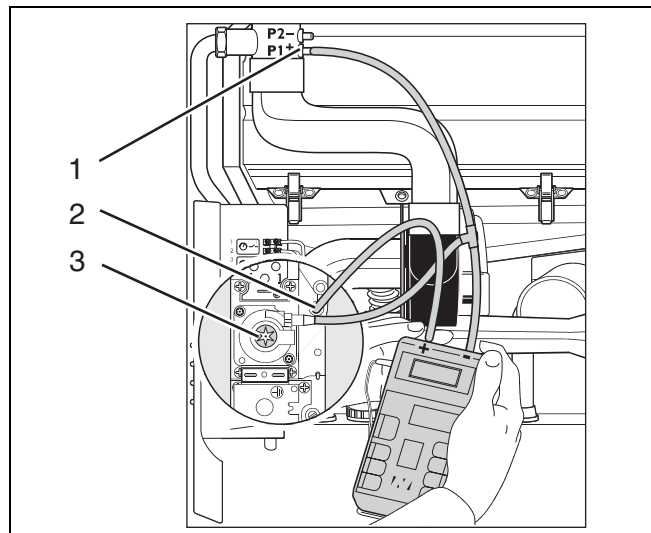
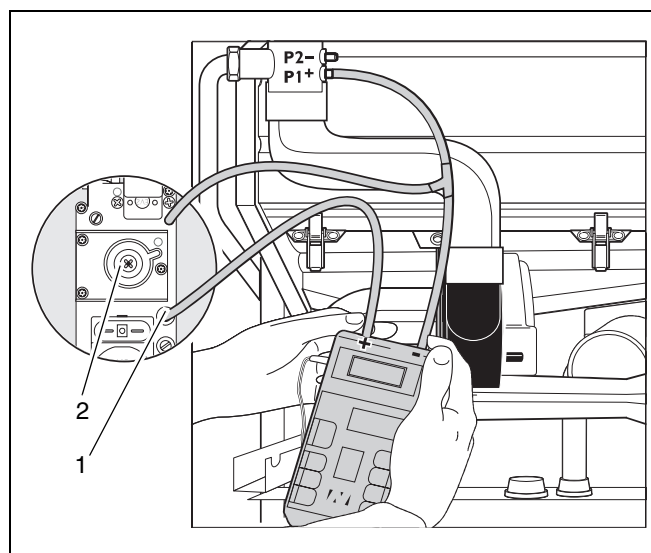

fig. 36 Checking and adjusting the gas/air ratio (Honeywell gas unit)
fig. 37 Checking and adjusting the gas/air ratio (SIT gas unit)
- Pull off the bottom hose attached P1 (fig. 36, item 1) and fit a hose with Tee in between.
- Loosen the screw in the burner pressure measuring nipple on Honeywell gas units (fig. 36, item 2) two turns, completely unscrew the screw on SIT gas units (fig. 37, item 1).
- Connect the positive port of the pressure gauge with a hose to the burner pressure measuring nipple (fig. 36, item 2 or fig. 37, item 1).
- In case of gas/air ratio deviations, adjust by using the setscrew (fig. 36, item 3 or fig. 37, item 2).
If the measured value is too high or too low, use the setscrew of the gas burner unit (fig. 36, item 3 or fig. 37, item 2) to set the gas/air ratio under partial load.